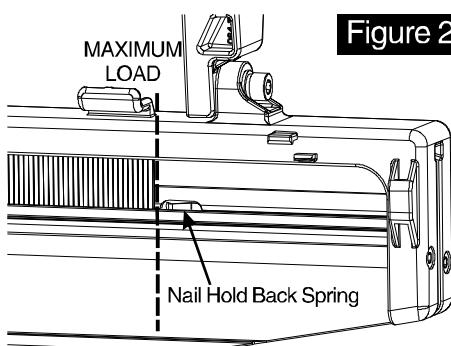

Figure 2
2. Insert strip of fasteners from the rear of magazine(A). Be sure the fasteners are pointed downward.(See figure 1 & figure 2)